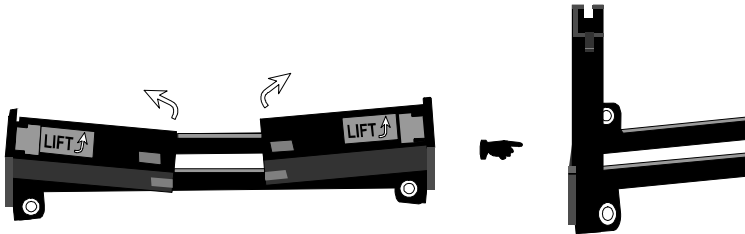

Figure 8
① First, please refer to figure 8 below, and follow the direction to lift up the fixed foldable pentium® II Retention Mechanism. This pre-installed device is designed for you to install Pentium® II CPU more easier and to avoid any damage on the board due to overtightening the four screws.
② One thing must be kept in your mind that please make sure to lift upright the foldable parts of the Retention module to fit and install CPU properly.
Figure 9 shows the layout of Slot 1 and the holes for mounting the Heatsink base piece (figure 8).